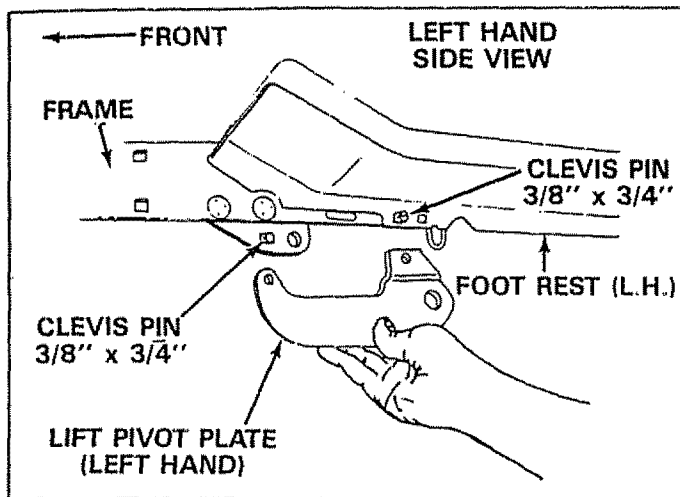

FIGURE 10
8. Assemble left hand lift pivot plate (note offset, see figure 10) under left hand foot rest and outside of frame. Secure with two 3/8" x 3/4" clevis pins and two 3/32" (small) hairpin cotters. See figures 10 and 11. Do not assemble lift pivot plate under the right hand foot rest at this time.